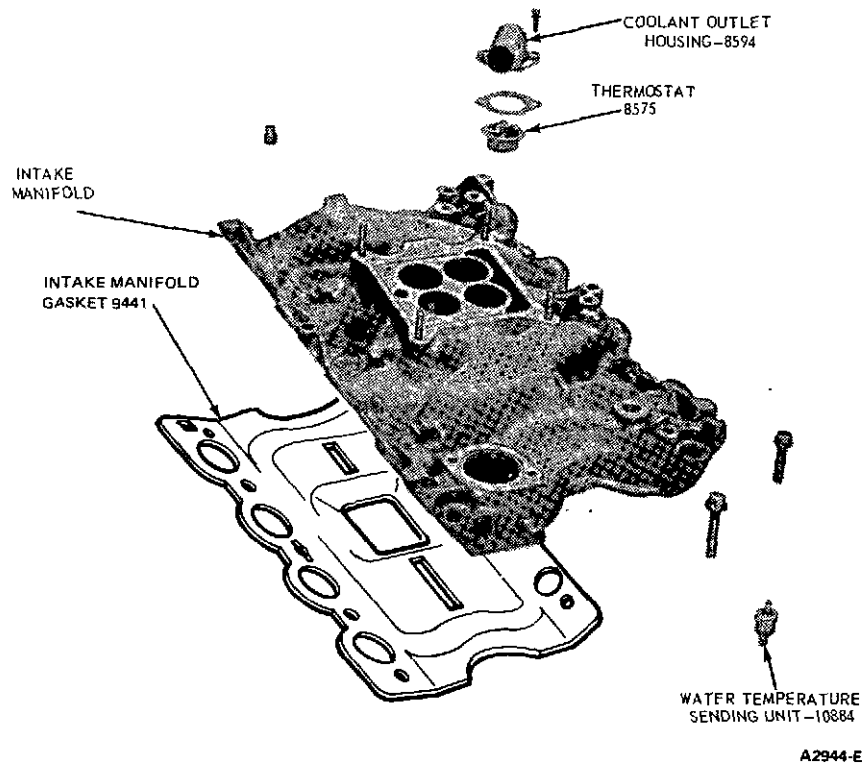

FIG. 39 Intake Manifold Disassembled
13. **If manifold is to be further disassembled (Figure 39),** remove coolant outlet housing, gasket, and thermostat. Remove automatic choke heat tubes, carburetor, spacer, and gaskets. Remove engine temperature sending unit. Discard all gaskets.